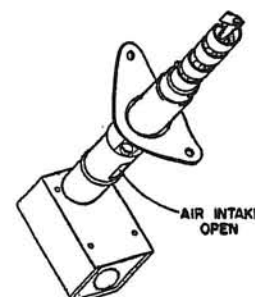

Fig. 3.
2. *Installations with Slow Cooling Stacks:* Adjust air intake slot in either a partly or fully opened position (see Fig. 3). This reduces the stack temperature surrounding the helix sufficiently during the "OFF" period to provide proper stack temperature difference between starting and running temperatures. This gives a faster helix response on the next operating cycle, preventing an unnecessary lockout.